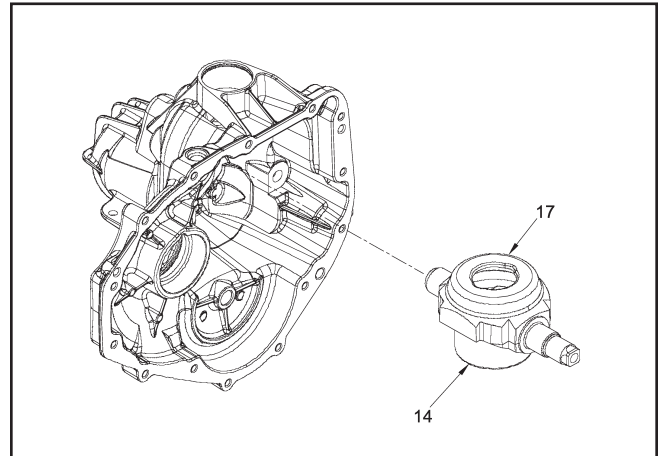

Figure 11
8. **(See Figure 11)** Remove the swashplate (17) and pump cylinder block (14) as one assembly. NOTE: Removal will be aided by applying a small amount of pressure on the trunnion mounted swashplate towards the center section. Also note that the control arm (59, page 26) may be loosely assembled at this point to assist in swashplate removal. While gently removing the swashplate and block assembly, keep the block face flush with the center section to minimize damage to the running surface.